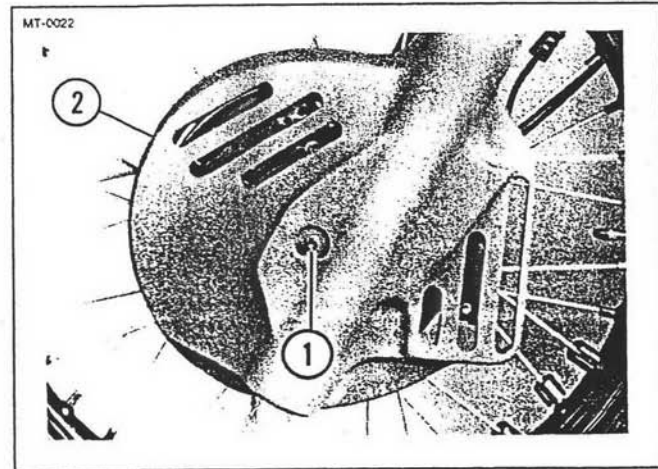

Figure 5-36. Front Brake Dust Shield
- See Figure 5-36. Using a *5 mm hex key*, install front brake dust shield (2), flat washer, lock washer, and socket head screw (1).